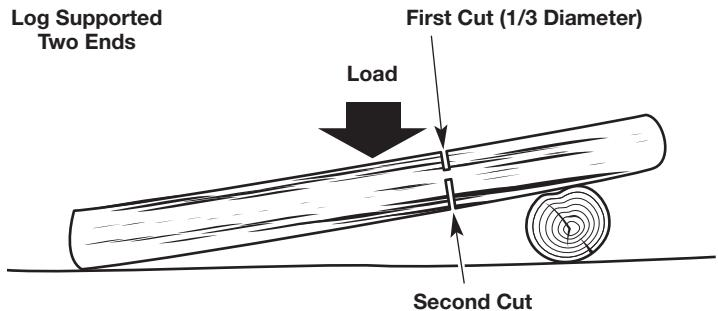

Fig. 18
- If the log is supported on two ends (Fig. 18), make the first cut from above (*Overbucking*). Refer to *Overbucking*.